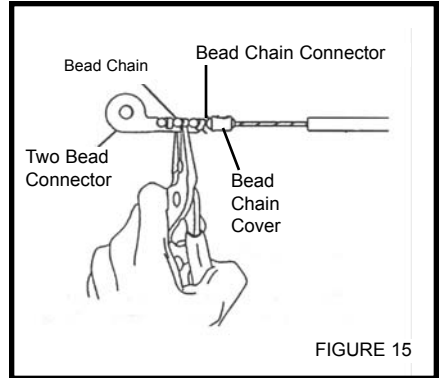

FIGURE 15
2. Attach the **BEAD CHAIN** to the **TWO BEAD CONNECTOR**. Secure beads by folding down the metal tabs. **Figure 15**